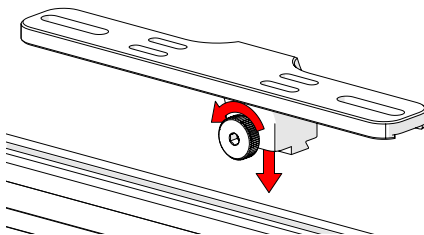

Fig. 72 - Loosen knob and mount to dovetail groove
1. Loosen the knob and align with the dovetail groove (Fig. 72).